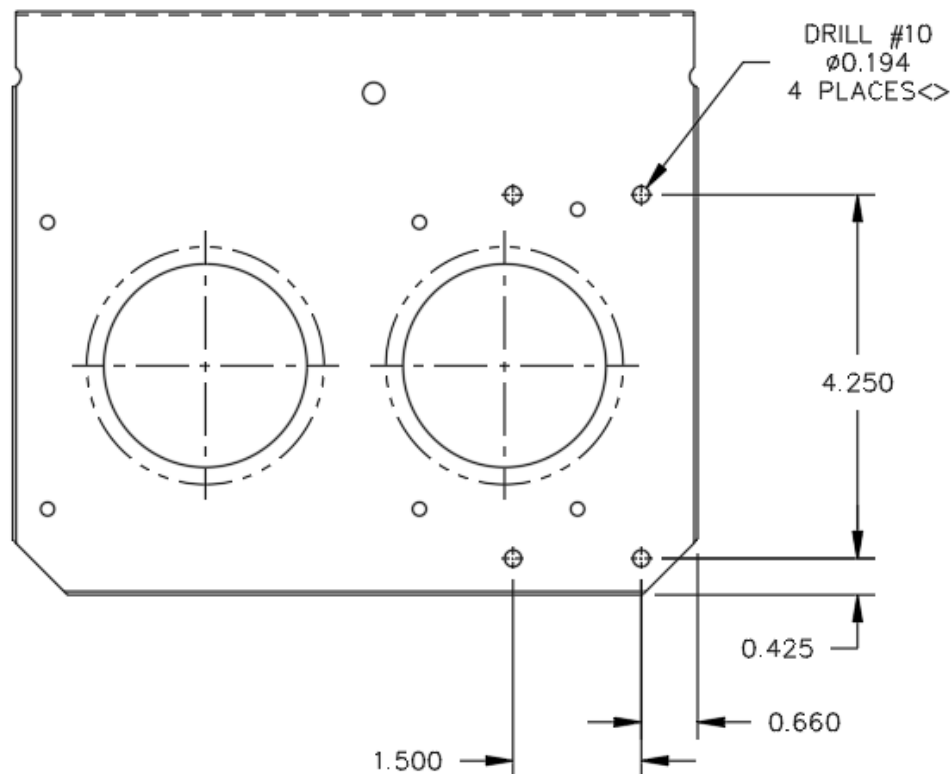

Figure 9: Caution Unit Tray Assembly
4. Mark off 4 mounting holes in the Caution Unit Tray Assembly as shown in Figure 9. Ensure the mounting holes will allow the fasteners to be clear of the underlying structure then the Caution Unit Tray Assembly is refitted and adjust the position if required.